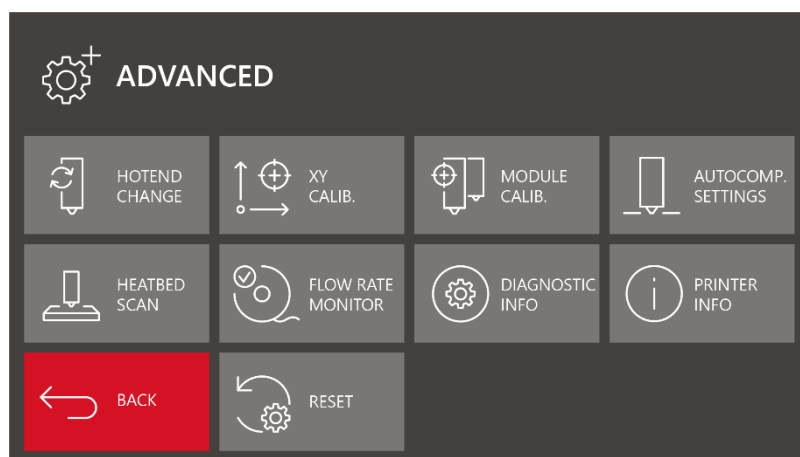

Fig. 25 ADVANCED menu screen
**Advanced** – management of the advanced options as well as calibration and diagnostics of 3DGence DOUBLE P255 printer (fig. 25).